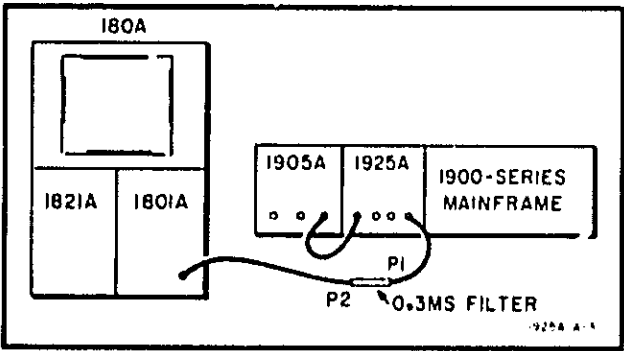

Figure 5-6. PRN Test Setup
b. Connect the equipment and accessories as shown in Figure 5-6.